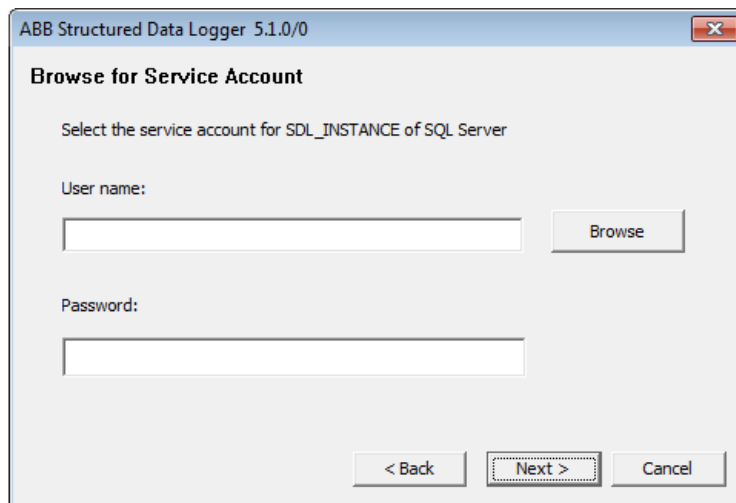

Figure 52. Browse for Service Account Dialog Box
- e. **Browse for Service Account dialog box (Figure 52):** Use this dialog box to enter the Service Account information for the BATCH_INSTANCE.
- Enter the Service Account user name and password in the Browse for Service Account dialog box (Figure 52), click **Next**, and wait for the installation to complete.
- l. Click **OK** to return to the Browse for Service Account dialog box (Figure 52).